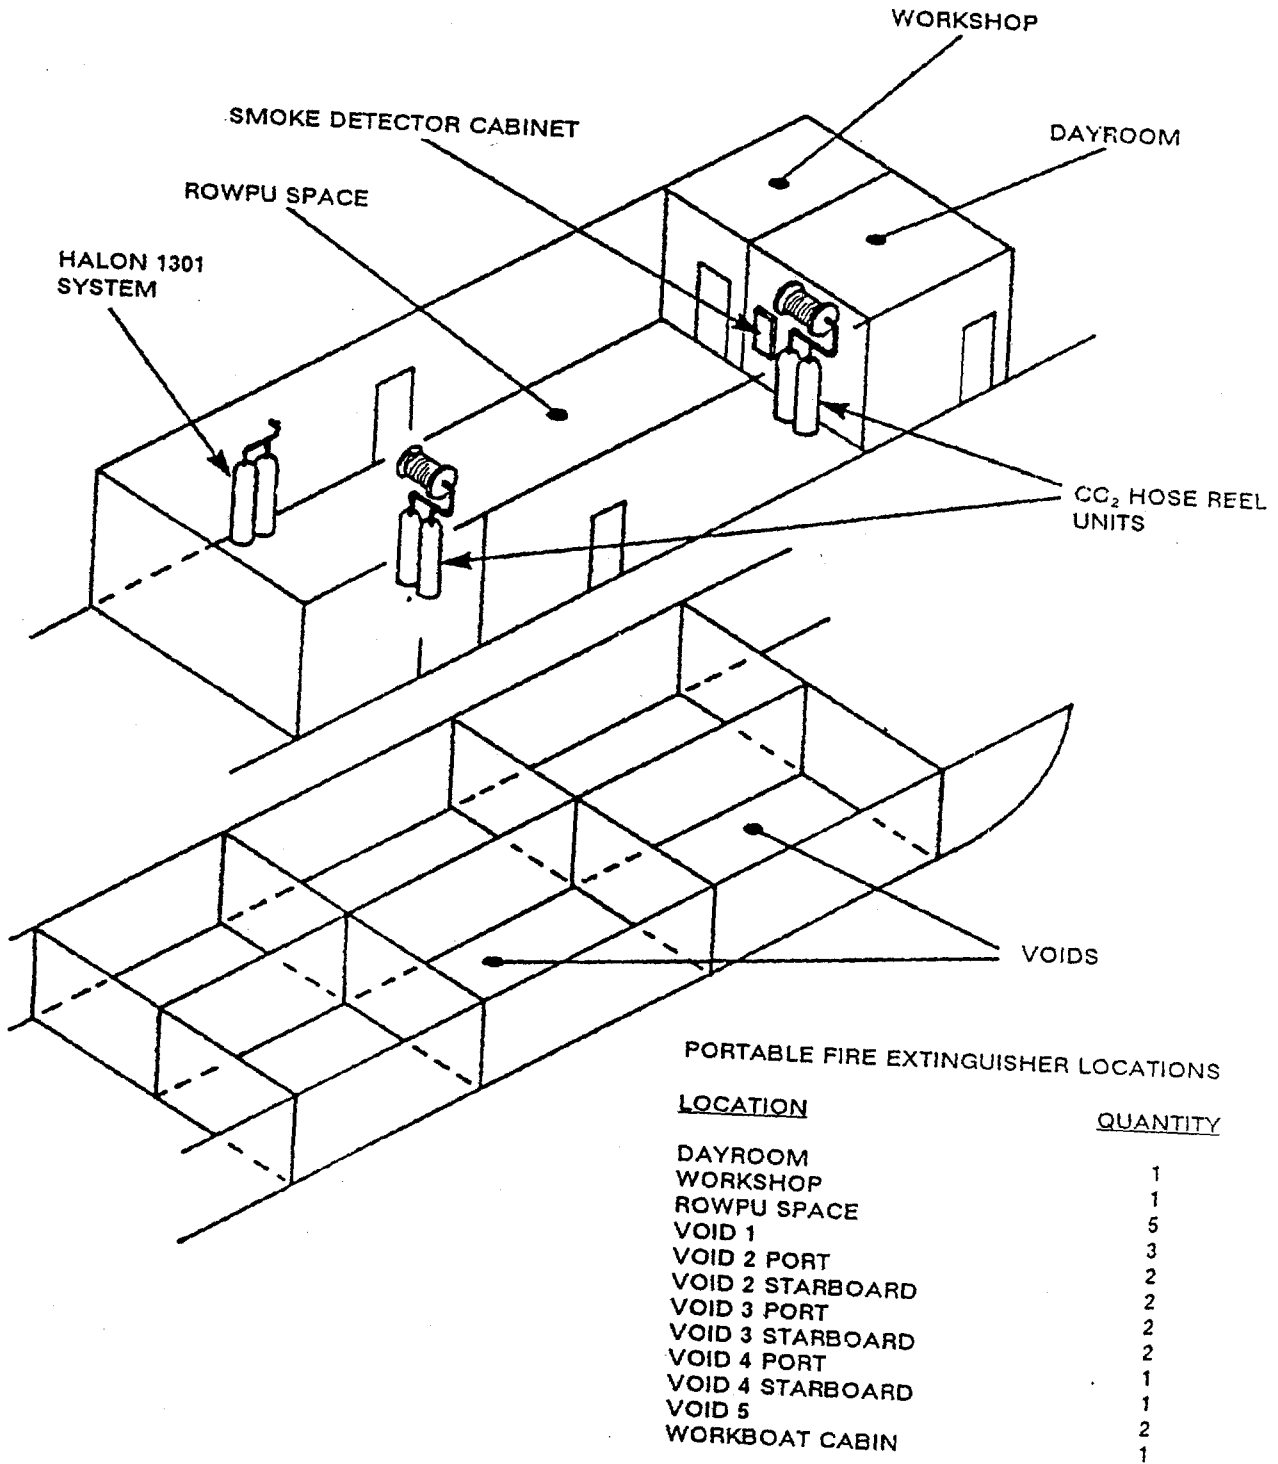

Figure 17-3. Firefighting Equipment and Location
**17-3.5** Barge firefighting equipment consists of Halon 1301 system, 2 CO2 hose reel units, a smoke detector system, 17 portable CO2 fire extinguishers, 5 dry chemical fire extinguishers, 5 self-contained breathing apparatuses, and a portable, engine-driven firefighting pump. Location of this equipment onboard is shown in Figure 17-3. In addition, there is a 10-pound, portable, dry chemical fire extinguisher on the workboat.